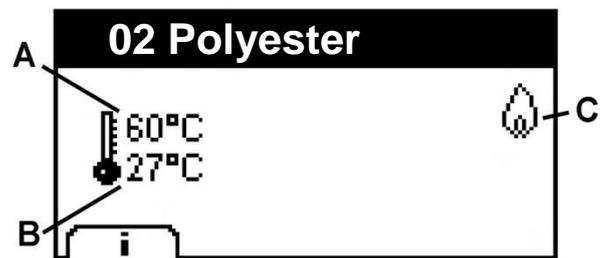

Fig. 4.3
- Once the program has started, the screen will display the programmed temperature (Fig. 4.3/A), the internal temperature of the machine (Fig. 4.3/B), as well as the heating icon in activation phase (Fig. 4.3/C).